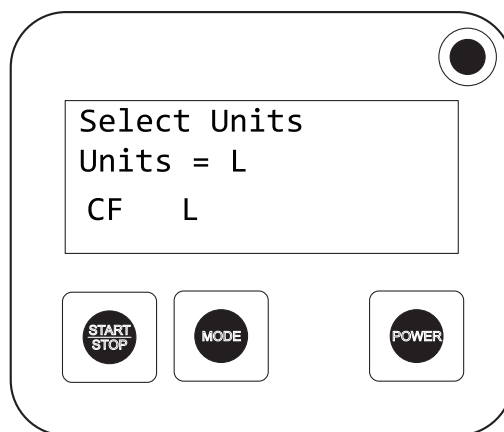

Figure 9 Select Units screen
2. Press the **MODE** key twice on the Main screen. The bottom line displays the current unit settings as shown in Figure 9.